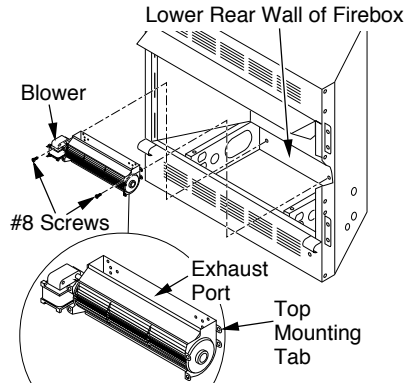

Figure 19 - Mounting Blower to Firebox
3. Place the blower against lower rear wall of firebox outer wrapper with the exhaust port directed upward. Align the holes in top mounting tabs of blower with holes in wall of wrapper (see Figure 19, page 15). Using two #8 screws provided, mount blower and tighten screws firmly.